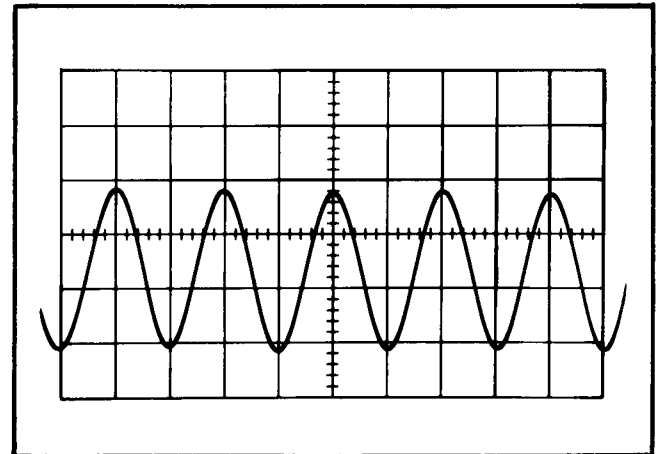

Fig. 5-16. Typical crt display when checking high speed timing linearity.
- e. Check—Timing over entire sweep length, excluding first and last 3 cycles of the total sweep, within $\pm 4\%$ (± 0.32 division for middle eight divisions); see Fig. 5-16.